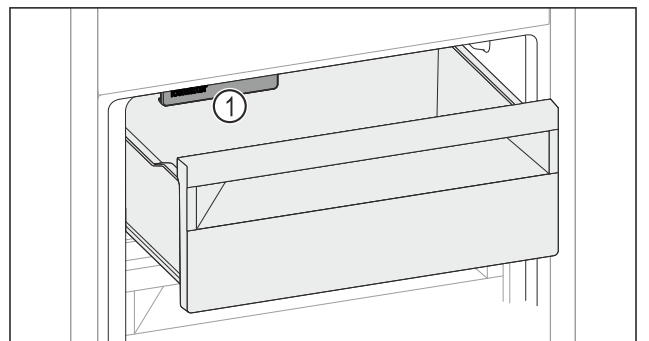

Fig. 49
- Watch out for the IceMaker Fig. 49 (1).